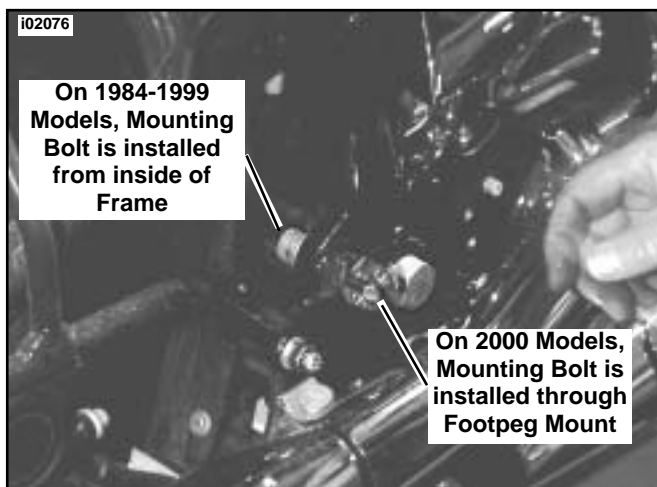

Figure 3. Remove Passenger Footpegs and Existing Saddlebag Supports
- On 1987 to 1999 models** See Figure 3. Remove footpeg mount and support hardware by removing bolt and washer (from inside frame). Discard existing support hardware.
- On 2000 and later models** See Figure 3. Remove footpeg mount by removing bolt (running through footpeg mount). Discard existing support hardware.